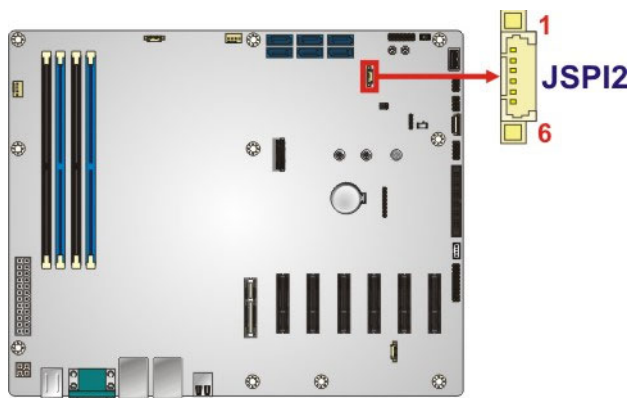

Figure 3-25: EC SPI Flash Connector Location
3.2.24 SPI Flash Connector (EC)
- CN Location:** See **Figure 3-25**